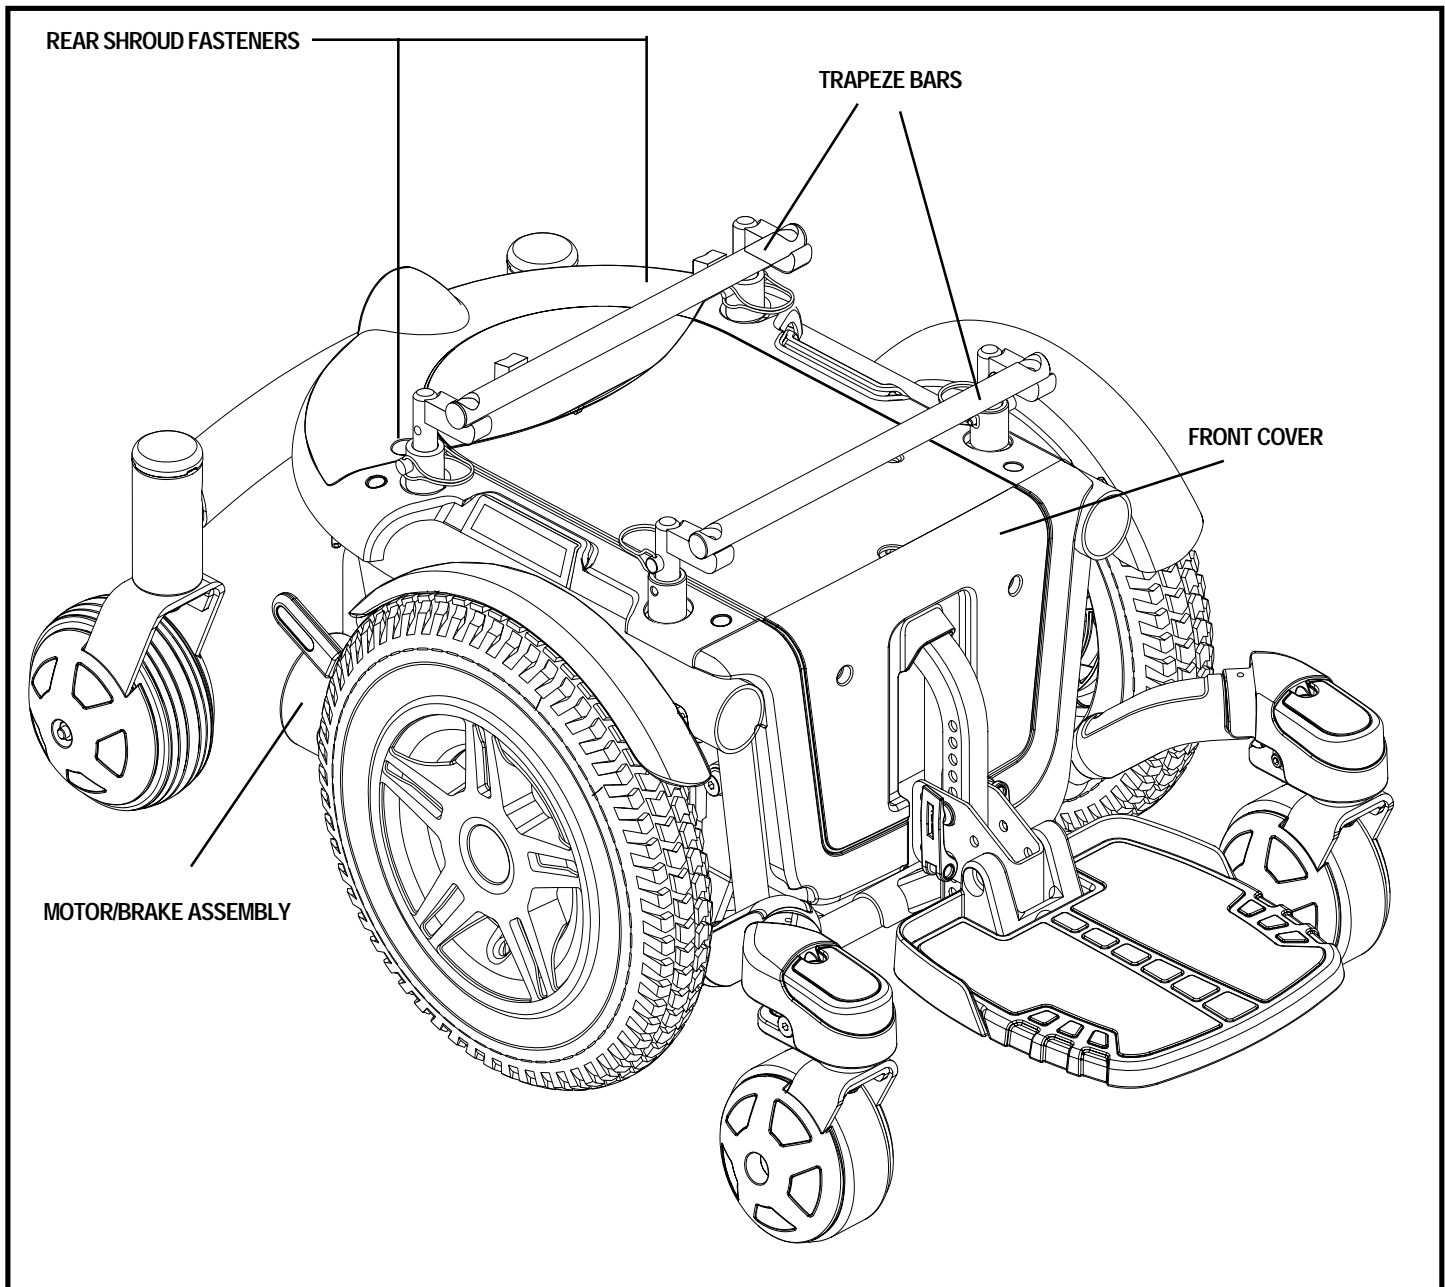

Figure 6. The Quantum 600E Power Base
4. Loosen the rear shroud fasteners and remove the rear shroud. See figure 6.
5. Plug the controller connector(s) into the power base. See figure 6.
2. Loosen the rear shroud fasteners and remove the rear shroud cover. See figure 6.